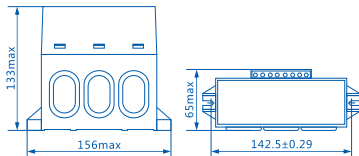

Figure 3 Outline and Installation Size of the Protector
3.1 See Figure 3 for the outline and installation size of the protector, unit: mm.